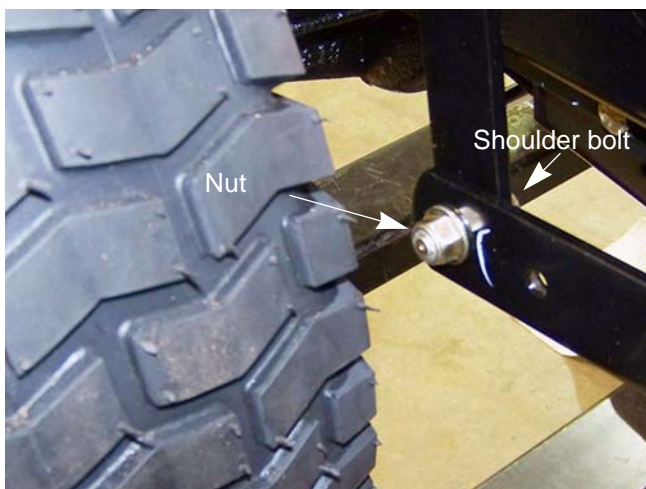

Figure 8.39
6. On each side, remove the shoulder bolt and nut that hold the slotted link to the lift link using a 3/4" wrench and a 9/16" wrench. See Figure 8.39.